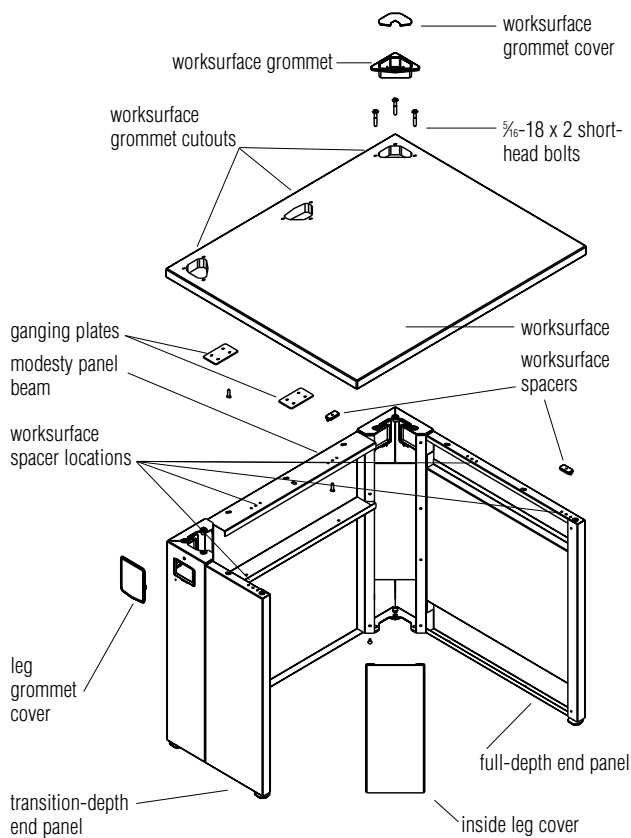

Figure 2
5. Carefully set assembly onto glides. Attach inside leg covers by aligning keyholes in leg cover with screw heads and firmly pressing down to secure (Figure 2).
6. Locate worksurface spacer locations on end panels and modesty panel beam and snap worksurface spacers into place from topside. There are two worksurface spacer locations on each full-depth end panel, one on transition-depth end panels and two on each modesty panel beam. A worksurface spacer must be used in all available locations (Figure 2).
7. Place worksurface laminate side up on leg support assembly, aligning the $\frac{3}{8}$ " diameter holes near the grommet cutout locations with the threaded inserts in the leg supports. Insert six $\frac{5}{16}$ -18 x 2 short-head bolts into the threaded inserts finger tight, but do not tighten until all the bolts are in place. Once all six bolts are in place, tighten until worksurface laminate begins to deform slightly from bolt head (Figure 2).